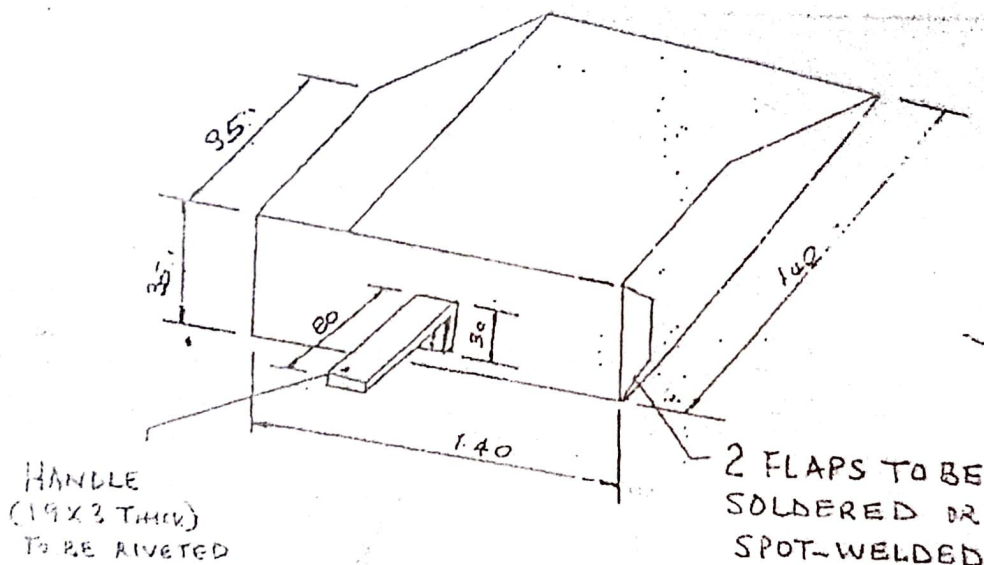

Figure 1
- b) Describe the steps (showing the major operations) involved in making the dust scoop shown in Figure 1. Identify the appropriate tools for each operation. Also, state any five safety precautions to observe/care for the tools employed. (12 marks)